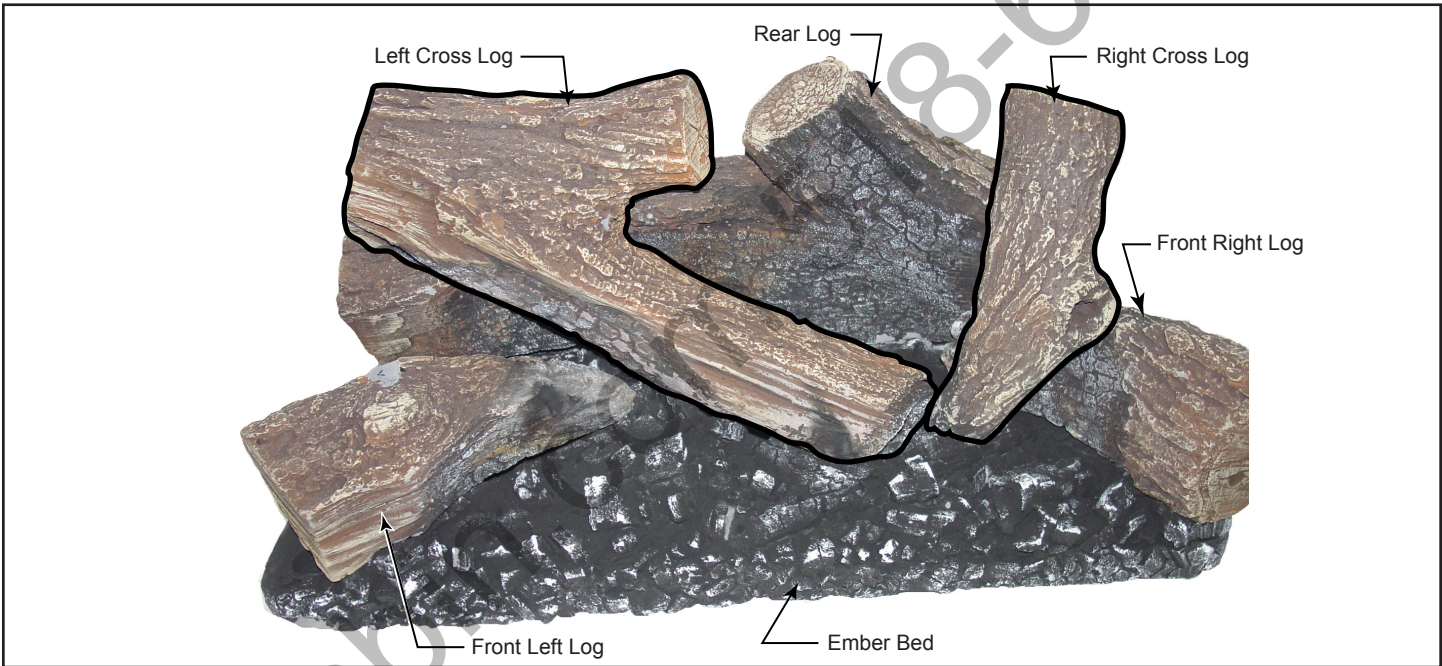

Figure 18
- c. Install the left cross log by engaging the hole on the bottom with the pin on the left side of the rear log. Set front side of cross log on notch in ember bed. (Figure 18)
- d. Install the right cross log by engaging the hole on the bottom with the pin on the right side of the rear log. Set front edge of cross log on ember bed as shown in Figure 18.